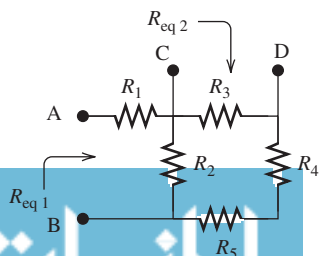

FIGURE P3.10 Circuit for Problem 3.10.
3.10 (H) Find R_{AB} and R_{CD} in Figure P3.10. Let node C and D open when calculating R_{AB} and let node A and B open when calculating R_{CD} .